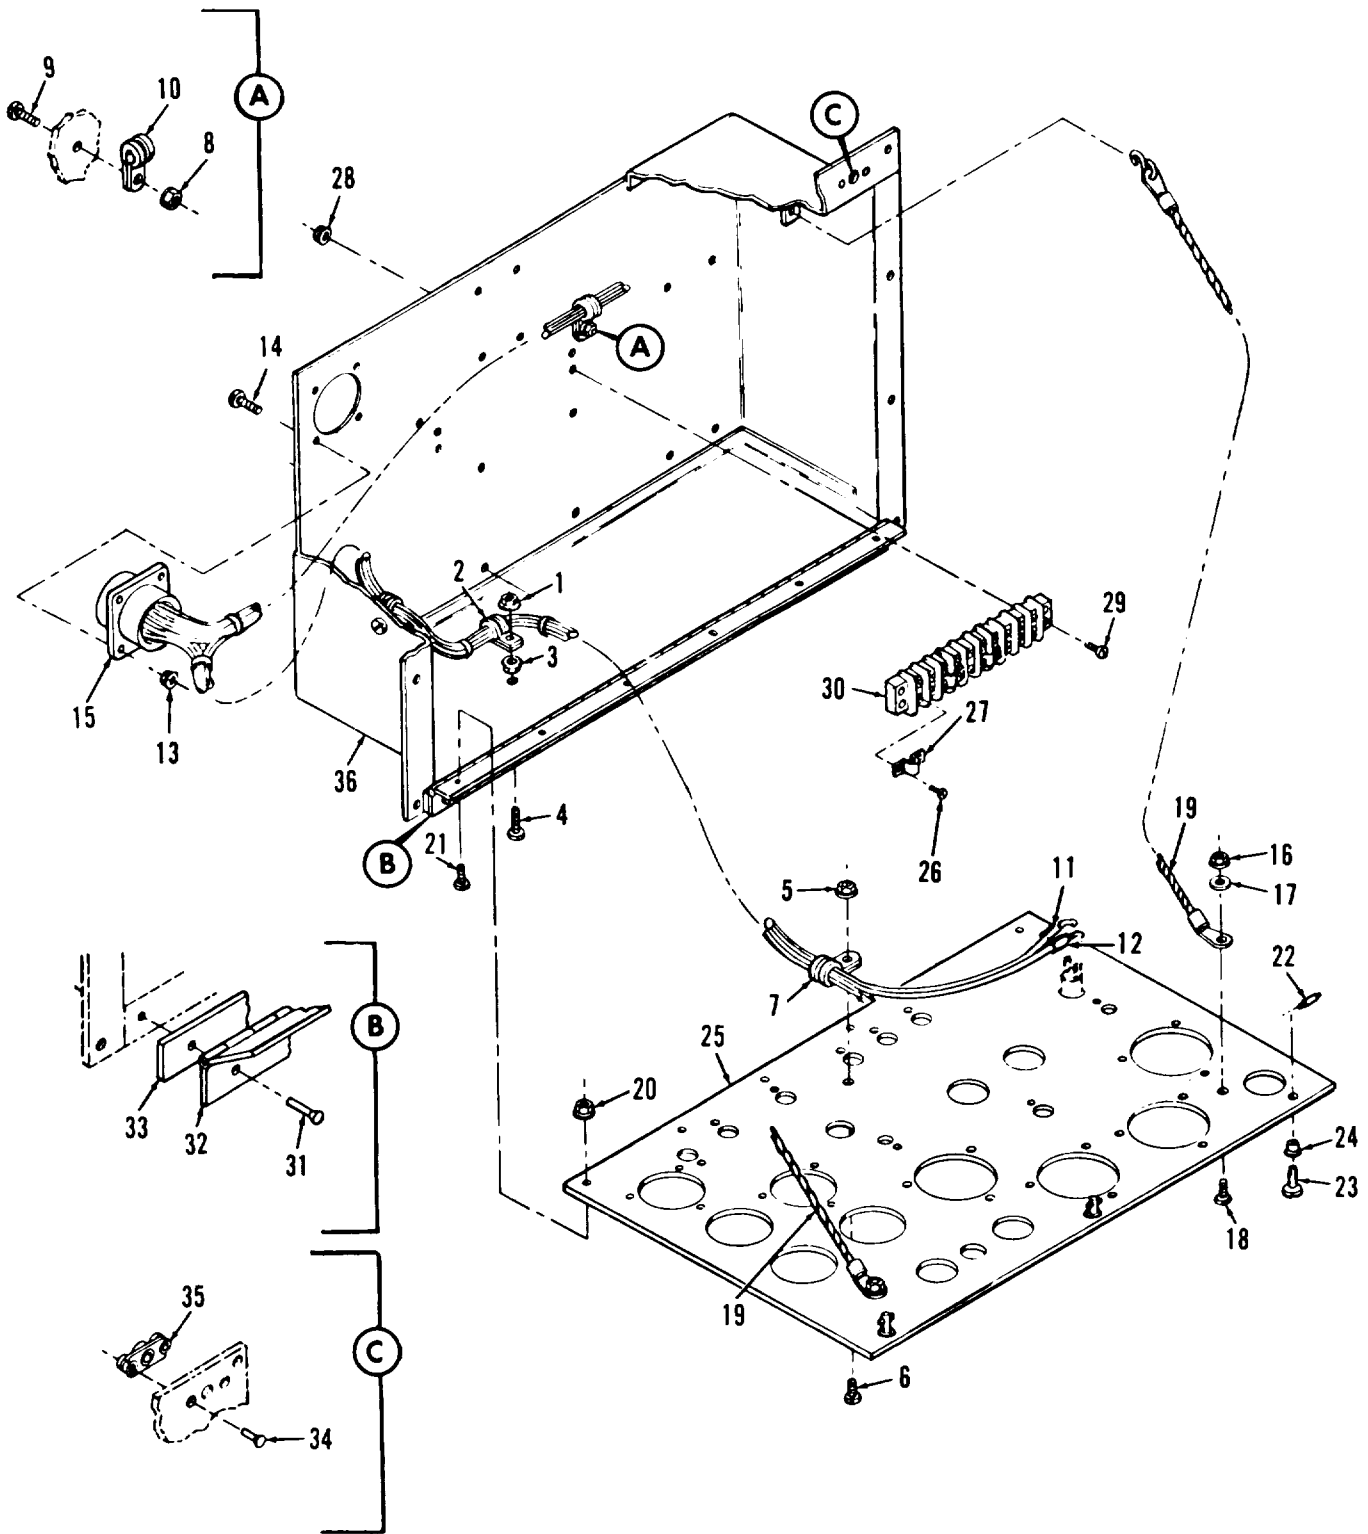
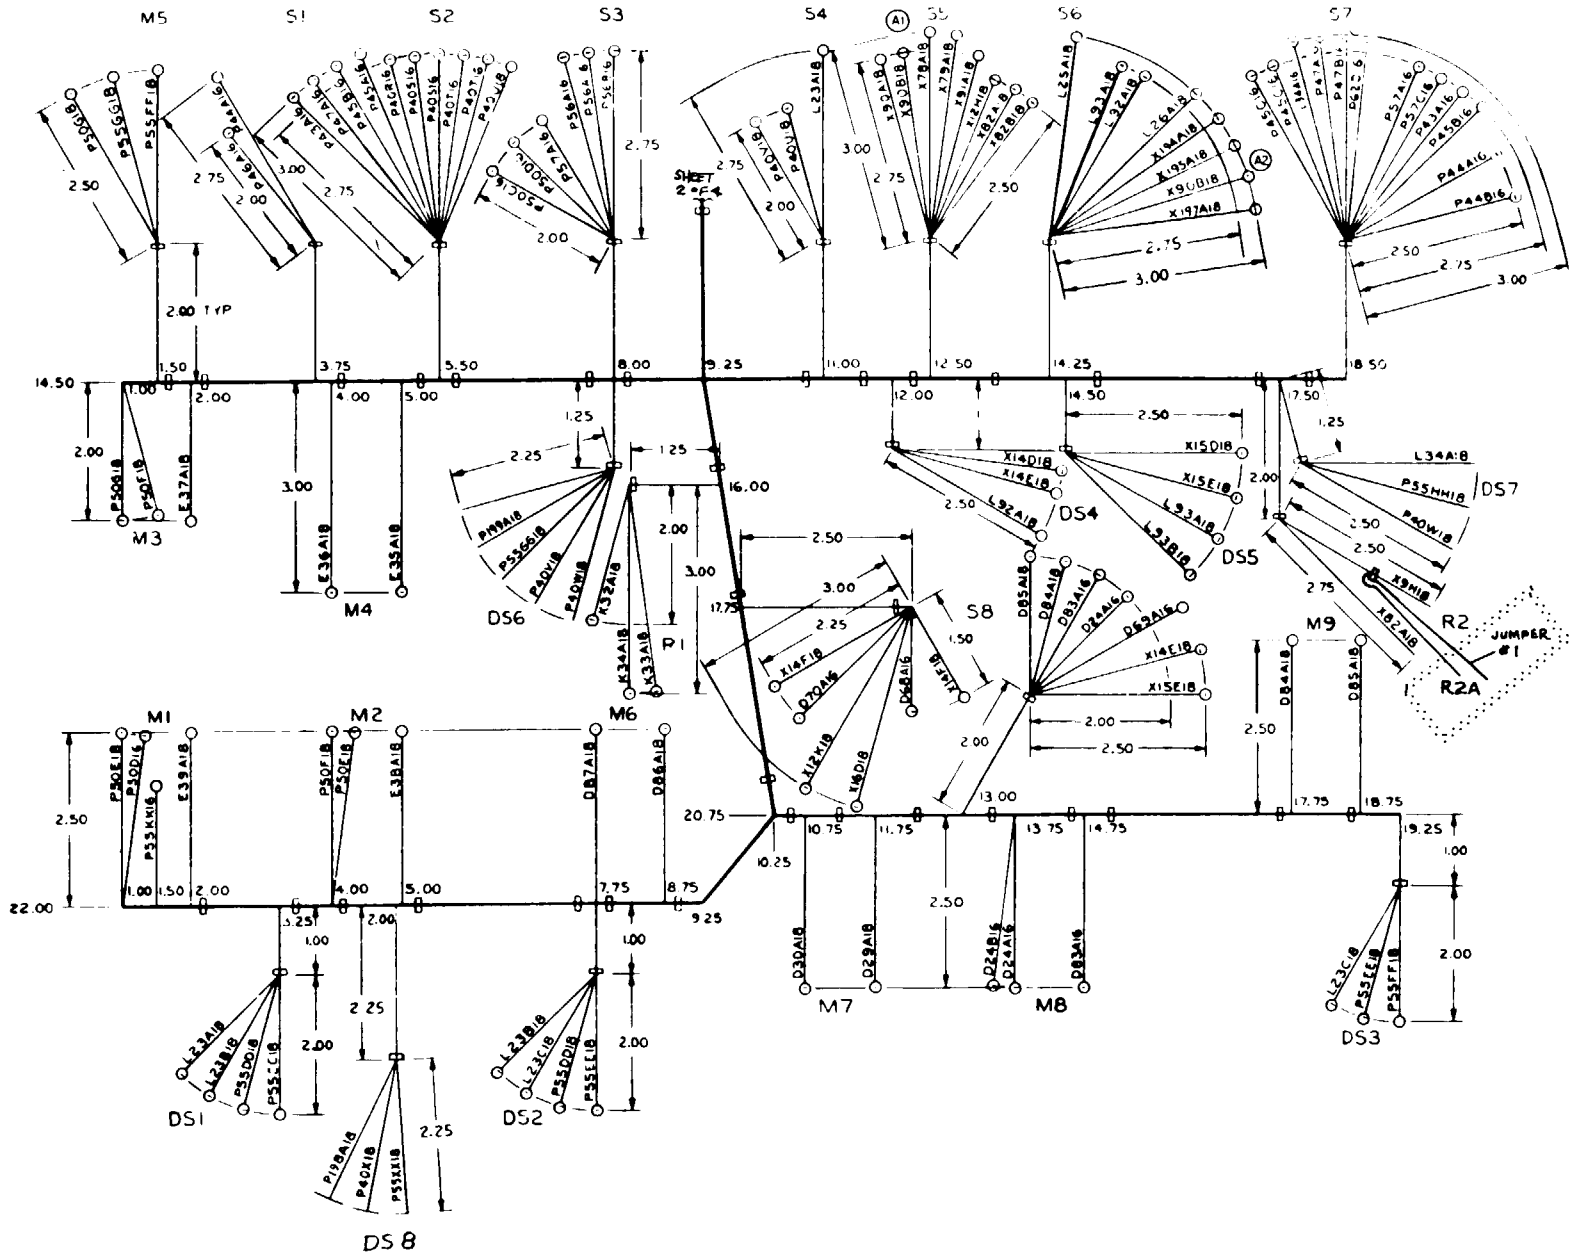

Figure 6-7. Control cubicle exploded view
Figure 6-8. Control cubicle wire harness (Sheet 1 of 4)
6-31. DISASSEMBLY. Refer to figure 6-7 and disassemble control cubicle assembly in the order of index numbers assigned. Pay particular attention to the following:
Legend to figure 6-7:
6-35. REBUILD. Rebuild the control cubicle wire harness (15, figure 6-7) according to figure 6-8.
6-36. REASSEMBLY. Refer to figure 6-7 and reassemble control cubicle assembly in the reverse order of index numbers assigned. Pay particular attention to the following:
d. When installing clamp (2, figure 6-7) nearest control box door (25), leave nut (1) loose enough to permit harness to pivot when control box door is opened and closed.